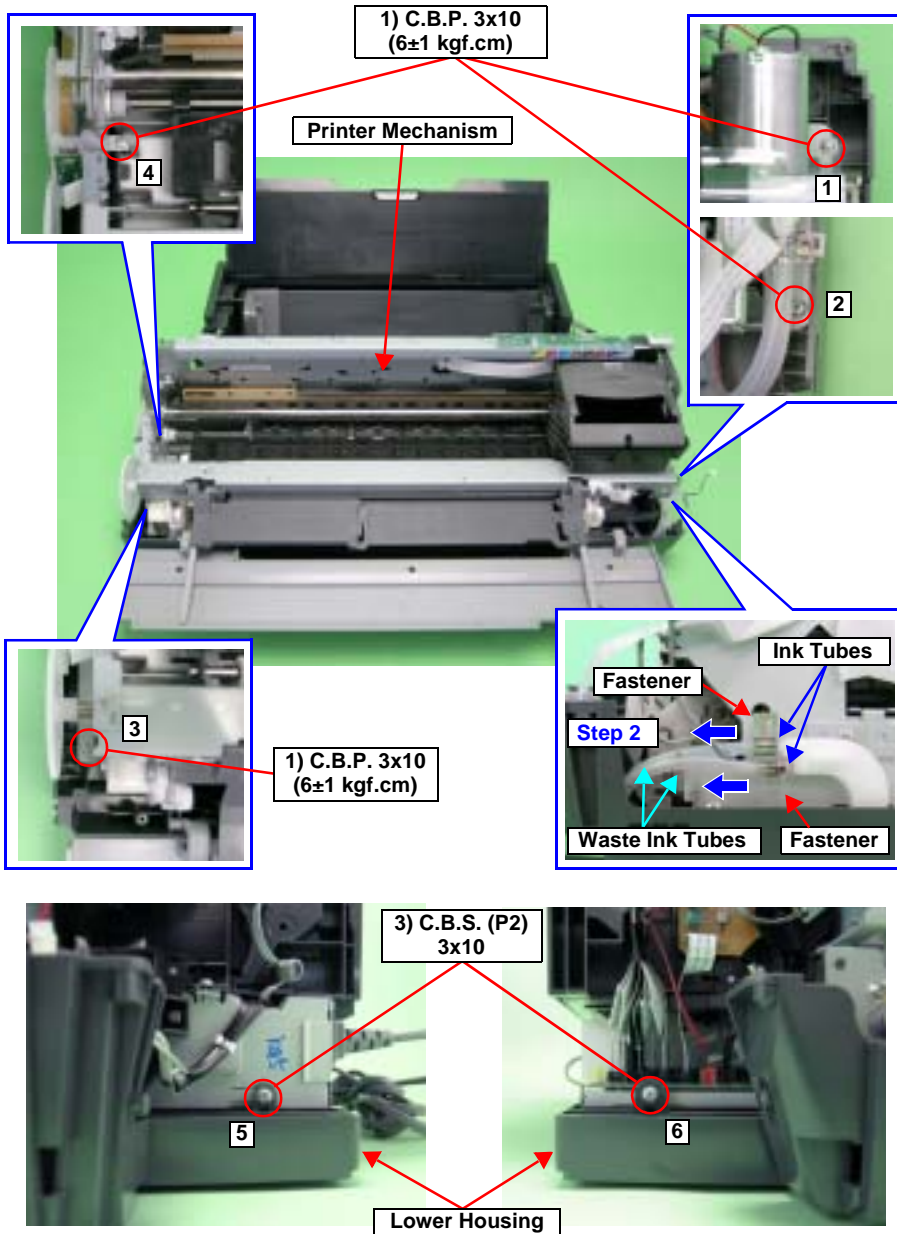

Figure 4-12. Screws that Secure the Printer Mechanism
- Tighten the screws in the order shown in Figure 4-12.